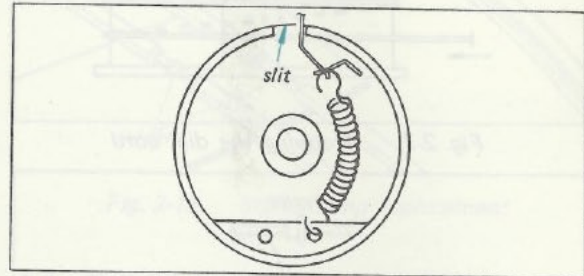

Fig. 2-6. Tension spring installation
1. Hook the spring to one hole of the drive drum as shown in Fig. 2-6.